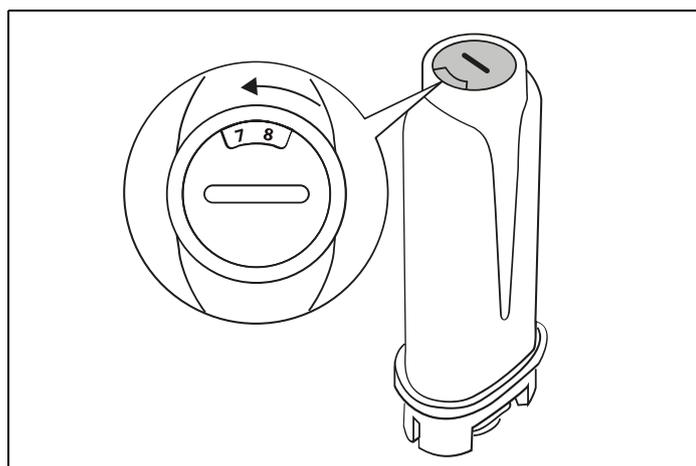

Fig. 60
- **Turn the date indicator until the next 2 months are displayed** (Fig. 60): turn the date indicator disk until the next two months of use are displayed. Press  NEXT;